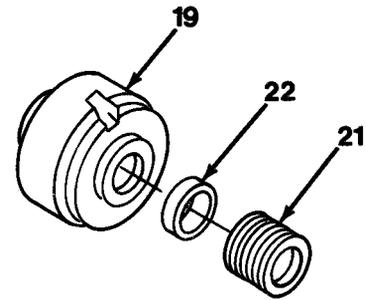

Figure 13-5
14. Remove retainer (21) and seat (22) from piston (19, Figure 13-5).